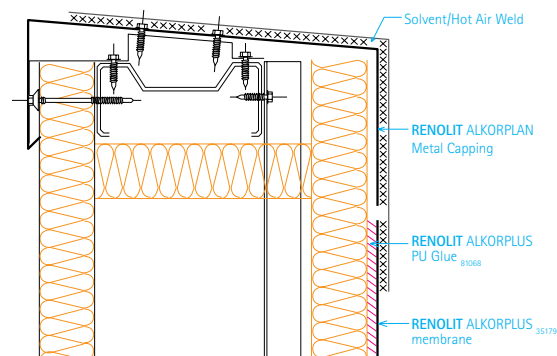

Fig. 2. gluing of parapets
- A mechanical edge restraint along the perimeter of the roof and around roof penetrations is not required where the roofing membrane is fully adhered in the perimeter area (minimum 2 m) and to the parapets. (See Fig. 2) The RENOLIT ALKORPLUS₈₁₀₆₈ PU glue is applied to the surface of the upstand with a minimum consumption of 300 g/m². The parapet will have a RENOLIT ALKORPLAN metal trim, but the compressive foam and intermediate fastening can be omitted.